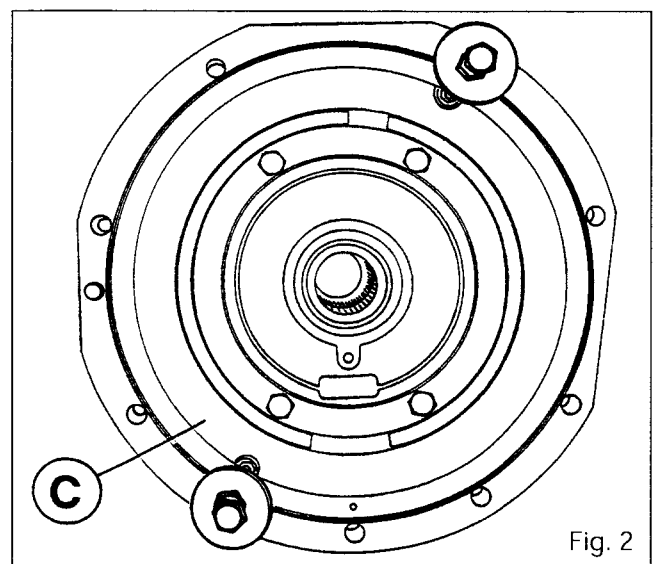

Fig. 2
1. Immobilize the tractor. Apply the handbrake. Fit chocks between the frame and the front axle (see 2 A01 Fig 2).
12. Unscrew the attaching bolts (29).
- . the brake disc (27)
- . the planetary shaft (25)
- . the locating dowel (28)
- Note: Before serial number E240024, to prevent the brake piston (C) from coming out of the housing, it is recommended that two wide washers and two bolts be fitted diametrically opposite each other to hold it in place (Fig.2).**
15. Remove the brake plate (26).